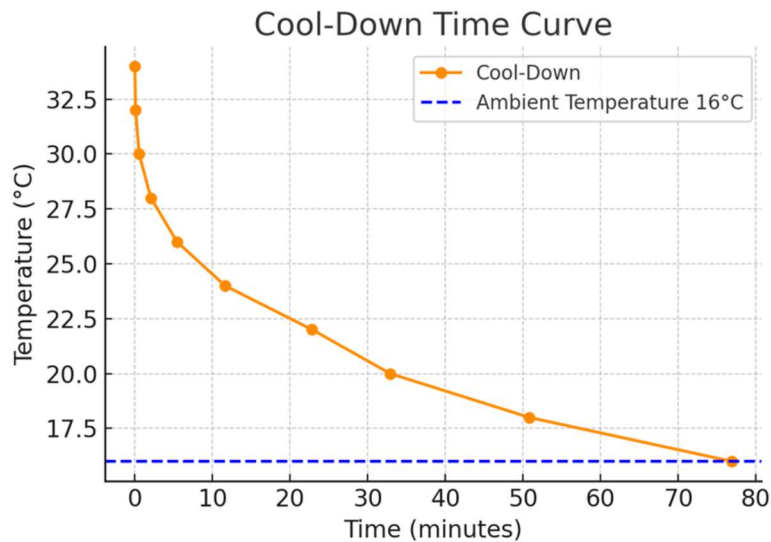

Figure 5: Cool down rate of JustHeat Panel without flooring
Figure 5 shows the cool-down rate as measured by a thermographer (Thermography Services (UK) Limited). This shows that heat is emitted into the room over a 75-minute period, meaning the panels perform as a radiator after the electrical power has been removed, ensuring a higher proportion of the heat energy created is used to keep the room at the desired temperature. This is partially due to the effective emissivity of the panel (as described above).